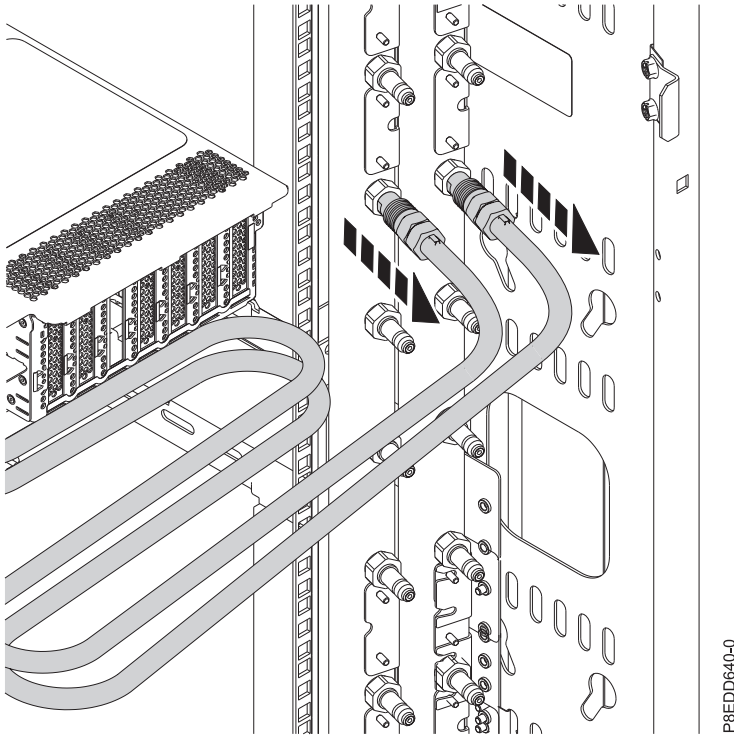

Figure 205. Disconnecting the water hoses
8. Label and disconnect the water hoses at the manifold for each server in the rack. Pull the coupling toward you to disconnect the water hoses as shown in Figure 205 on page 180.